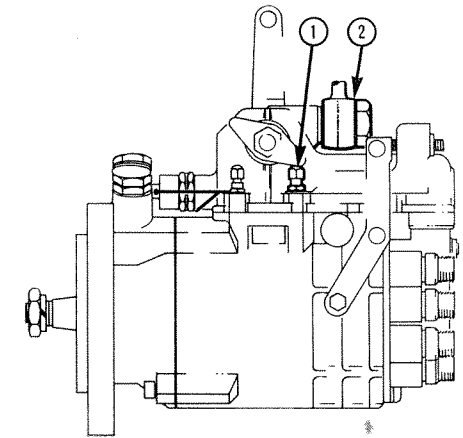

Fig. 11(e)
- Key to fig. 11(e) TV8.510(M).
1. Unscrew the vent plug on the front of the fuel filter (see fig. 11(d) by two or three turns.
3. Unscrew the fuel injection pump return connection (see fig. 11(e) and operate the priming pump until fuel, free from air bubbles, issues from the connection. Tighten the connection.